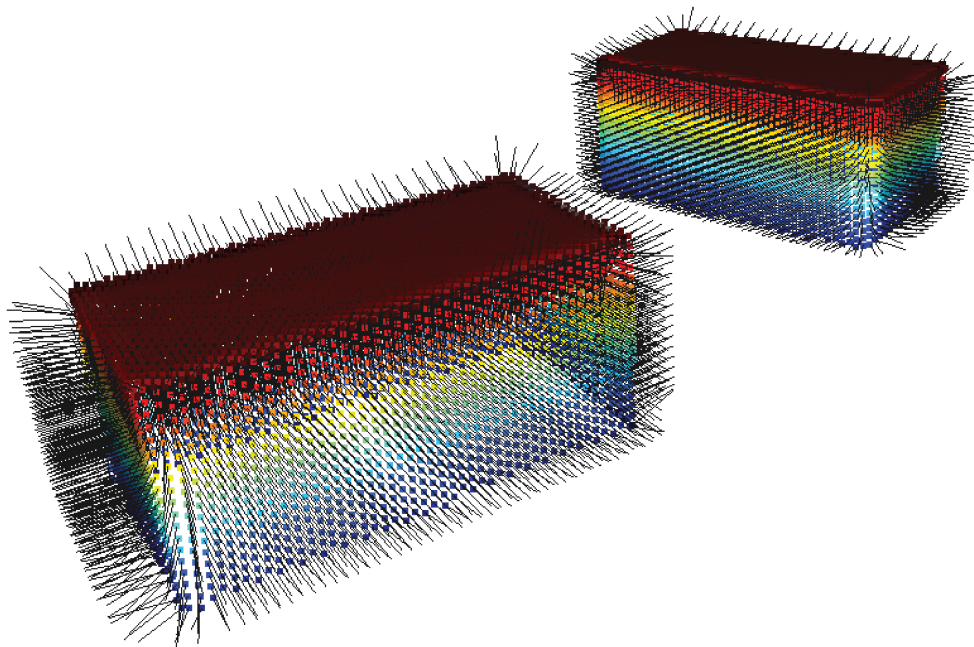

Figure 2. The fused point cloud of the objects, registered to the world reference frame and the corresponding normals.
3. The `helper.draw_pcd(pcd)` function visualizes the point cloud you collected from the scene. In the `open3d` window that pops up, you can hit `n` to visualise the normals, just as in Fig. 2.